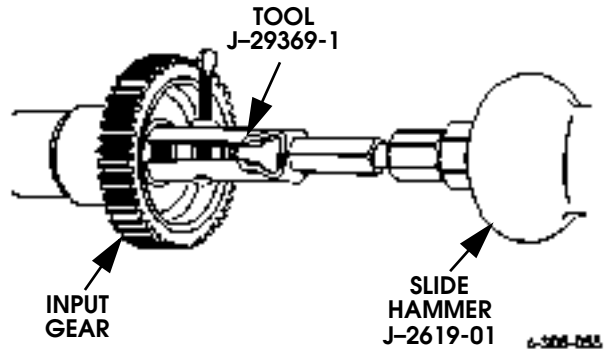

Figure 5-124: Removing Mainshaft Pilot Bearing From Input Gear
1. Remove pilot bearing from input gear with slide hammer J-2619-01, and puller tool J-29369-1 (Figure 5-124). Support input gear on vise or over precut notch or hole in workbench.